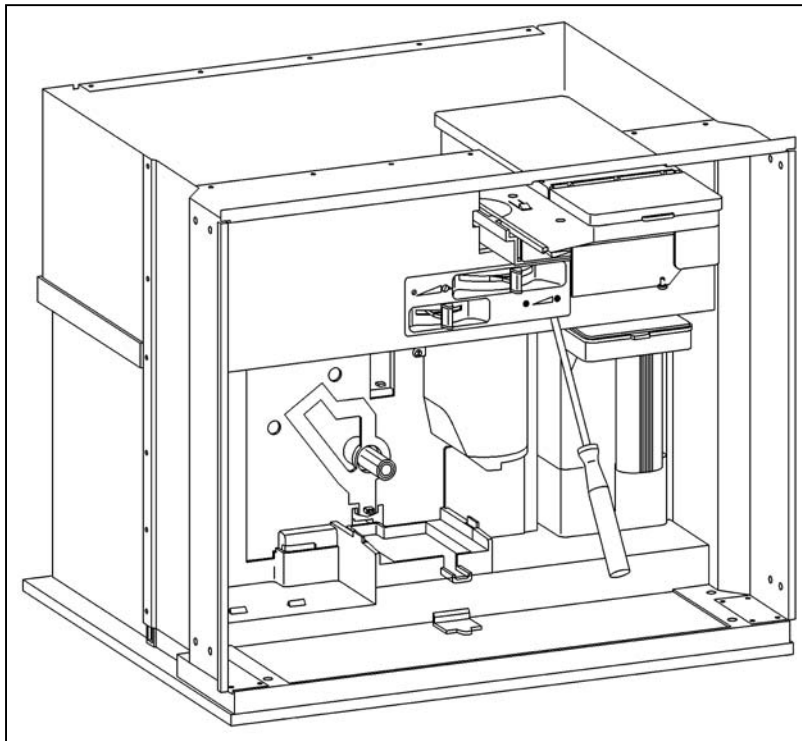

Figure 5-4: Removing the Adjustment Slide Switch Frame (Bezel).
3. Press the retaining lugs inwards with a small screwdriver (Figure 5-4).